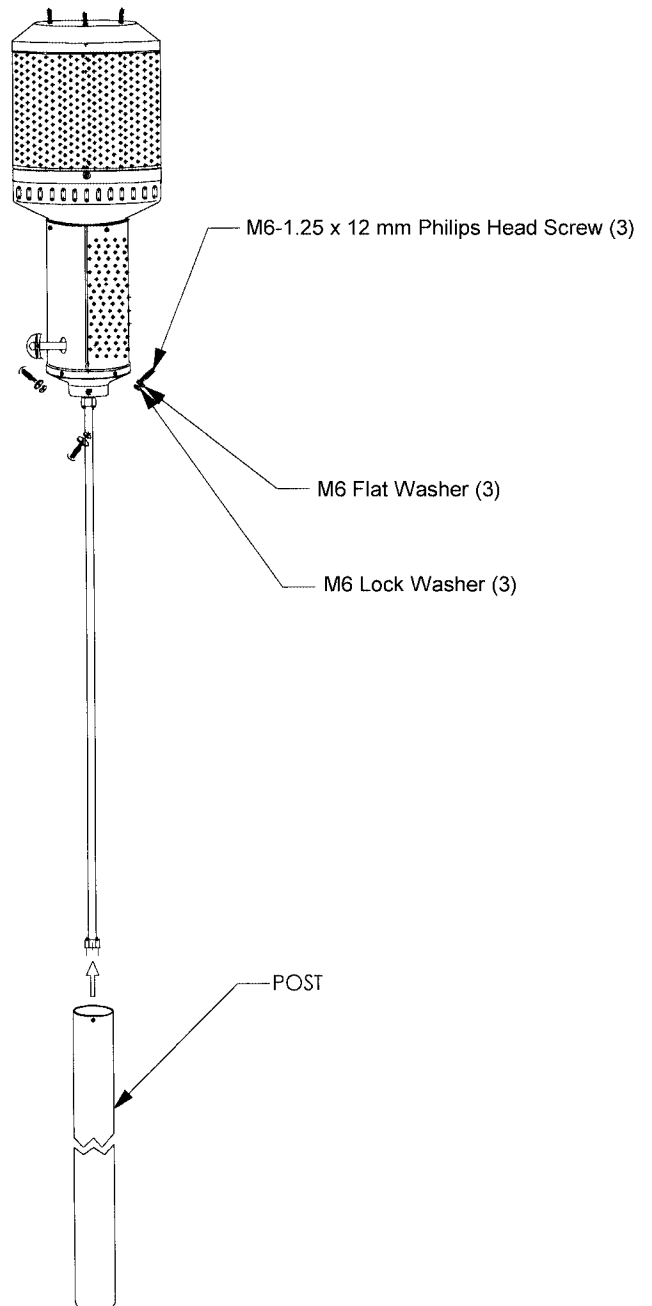

Figure 4: Step 6
Slide the post over the fuel line. Push the post over the lower end of the main burner housing. The post end with the three holes goes first. Attach the post to the main burner using three (3) M6 lock washers, three (3) M6 flat washers, and M6 phillips head screws. See figure 4.